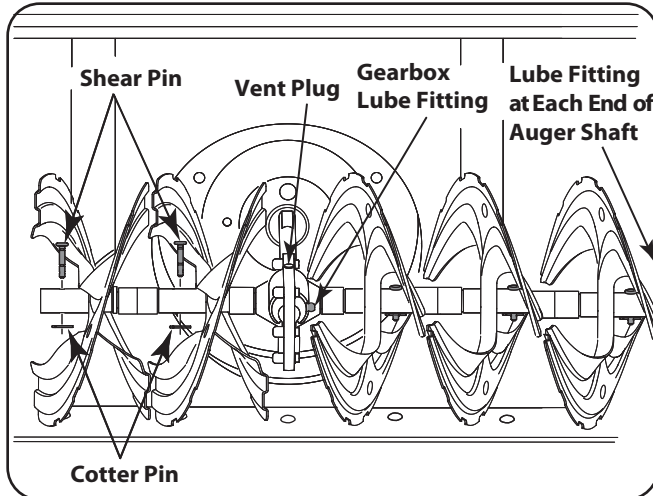

Figure 6-3
Grease fittings can also be found at each end of the auger shaft. Lubricate flange bearings found at each end of the shaft with a grease gun once a season. See Figure 6-3.
The auger gear case is equipped with a grease fitting. Lubricate with Shell Alvania lead-free grease (737-0168) once a season. See Figure 6-3.
**NOTE:** To relieve pressure, remove the vent plug before lubricating the gear case. See Figure 6-3. Failure to do so could result in damage to the gear case seals.